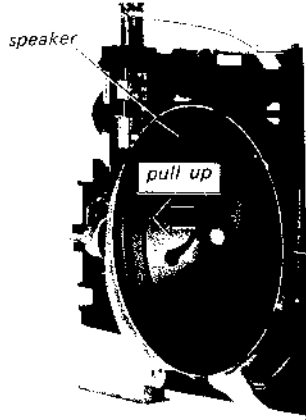

Fig. 2-6.
- Remove the speaker as shown in Fig. 2-6 and unsolder the two speaker leads.